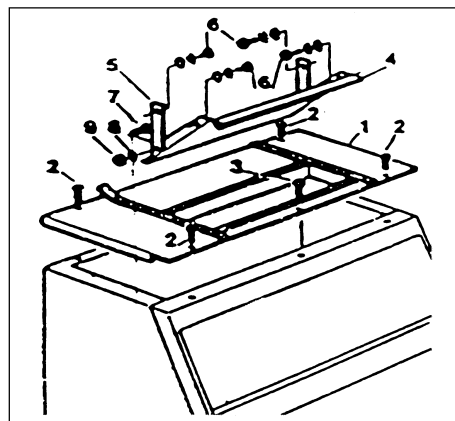

Fig.1
1. Fit the cover kit on the storage bin of 300kg (as indicated in Fig. 1) and put the lower ice maker on the bin as indicated in the instruction manual.